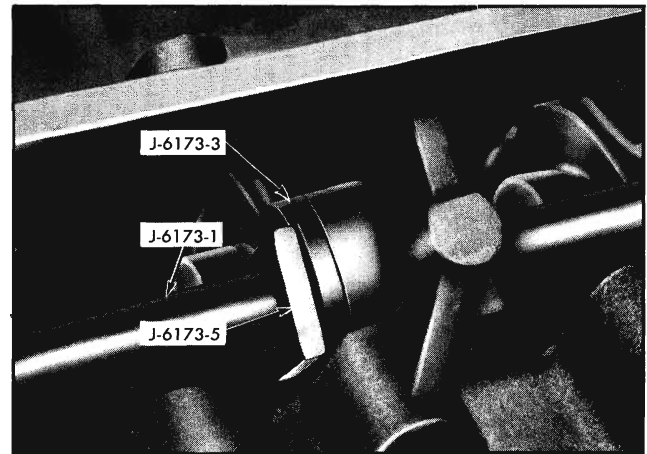

Fig. 6-44 Tools Positioned for Bearing Installation
5. Position Replacer Adapter J-6173-3, with bearing in position against shoulder, against rear of hole in which bearing is to be installed (Fig. 6-44). Index mark on shoulder of Replacer must point toward crankshaft to properly position bearing.
7. Slip key J-6173-5 into notches in shaft behind Replacer Adapter J-6173-3 and tighten nut to start bearing into hole (Fig. 6-44). Continue to tighten nut until bearing has been pulled completely into its hole. When properly positioned, it will be approximately flush with both sides of the transverse member.